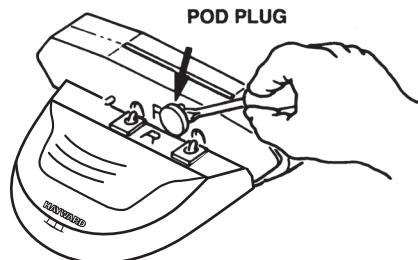

Figure 9
1. Check the condition of the “shoes, wings and flaps” periodically. The shoes and wings have wear indicators on their sides and should be checked occasionally to determine if they need replacing. The shoe wear indicator is a line on the side of the shoe that appears as a difference in texture. When this texture difference is no longer visible at the bottom of the shoe when viewed from either side, the shoes must be changed (*see Figure 8*). Also on the side, the wing wear indicator is a horizontal line which has three (3) vertical lines above it. When you can no longer see the horizontal line, the wings must be changed (*see Figure 9*). The Hayward Tune-Up Kit is available from your dealer. Shoes, wings and flaps may also be purchased separately.
- a) Using a screwdriver, remove the plugs from both pods (see Figure 9).